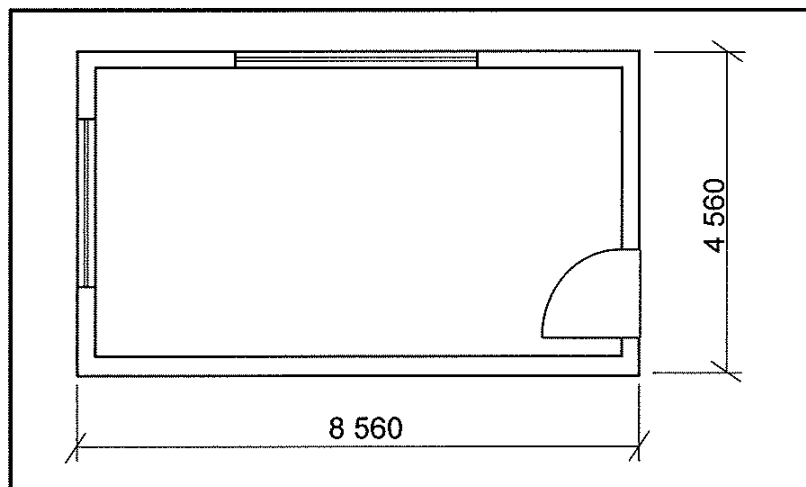

FIGURE 6.6
6.6 FIGURE 6.6 below shows the floor plan of a new building.